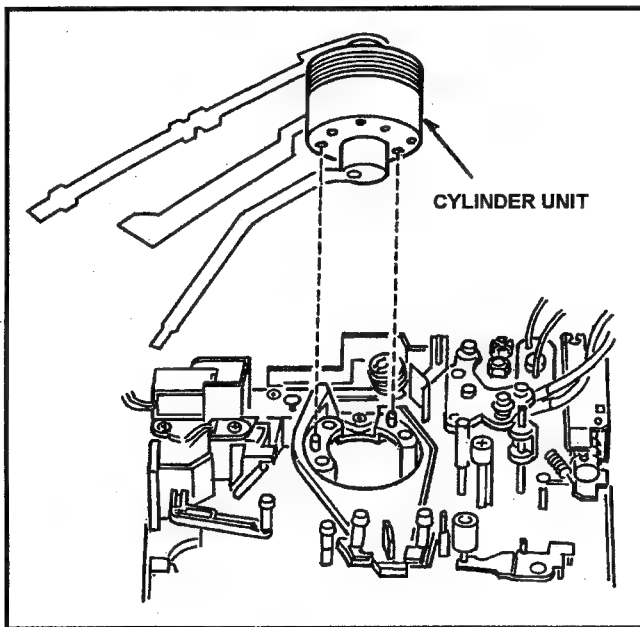

Fig. 6-1-4
**Note:** When install the Cylinder Unit, the pins on MECHA chassis should be matched with the holes of Cylinder Unit as shown in Fig. 6-1-4.